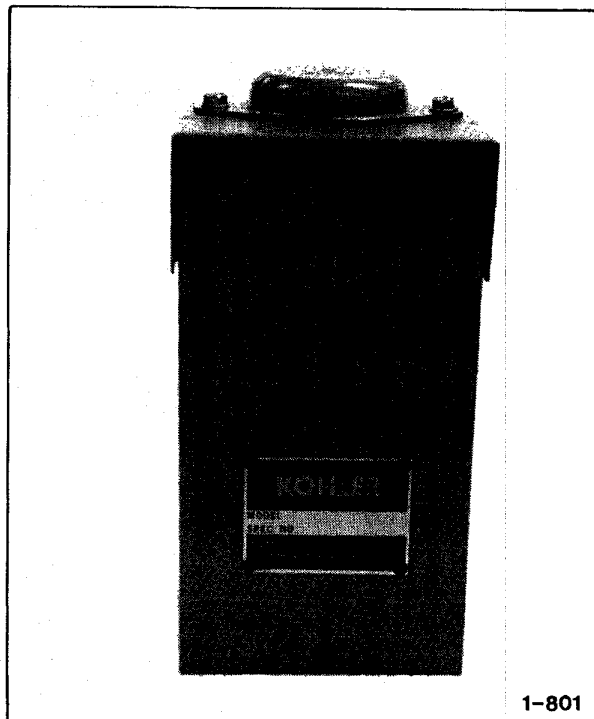

Figure 1-11. Connection Box
5. Turn receptacle end of power cord counterclockwise and unplug from connection box. Close connection box cover. See Figure 1-11.